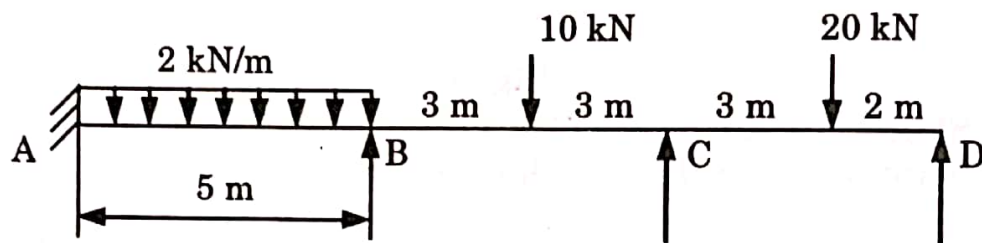

Fig. 5.
4. Analyze the beam given in Fig. 5 by slope deflection method and draw its bending moment diagram and shear force diagram.